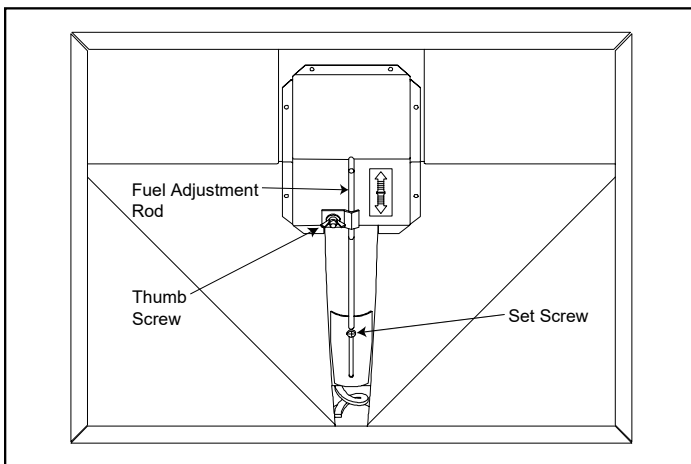

Figure 11.1
The feed adjustment control rod is factory set, and should be adequate for most fuels. The set screw is located at the bottom of the hopper and set loose at the factory so the fuel adjustment control rod will slide up and down by only loosening the thumb screw at the top (**Figure 11.1**). Do not re-tighten bottom set screw.
1. Loosen the thumb screw (**Figure 11.1**).